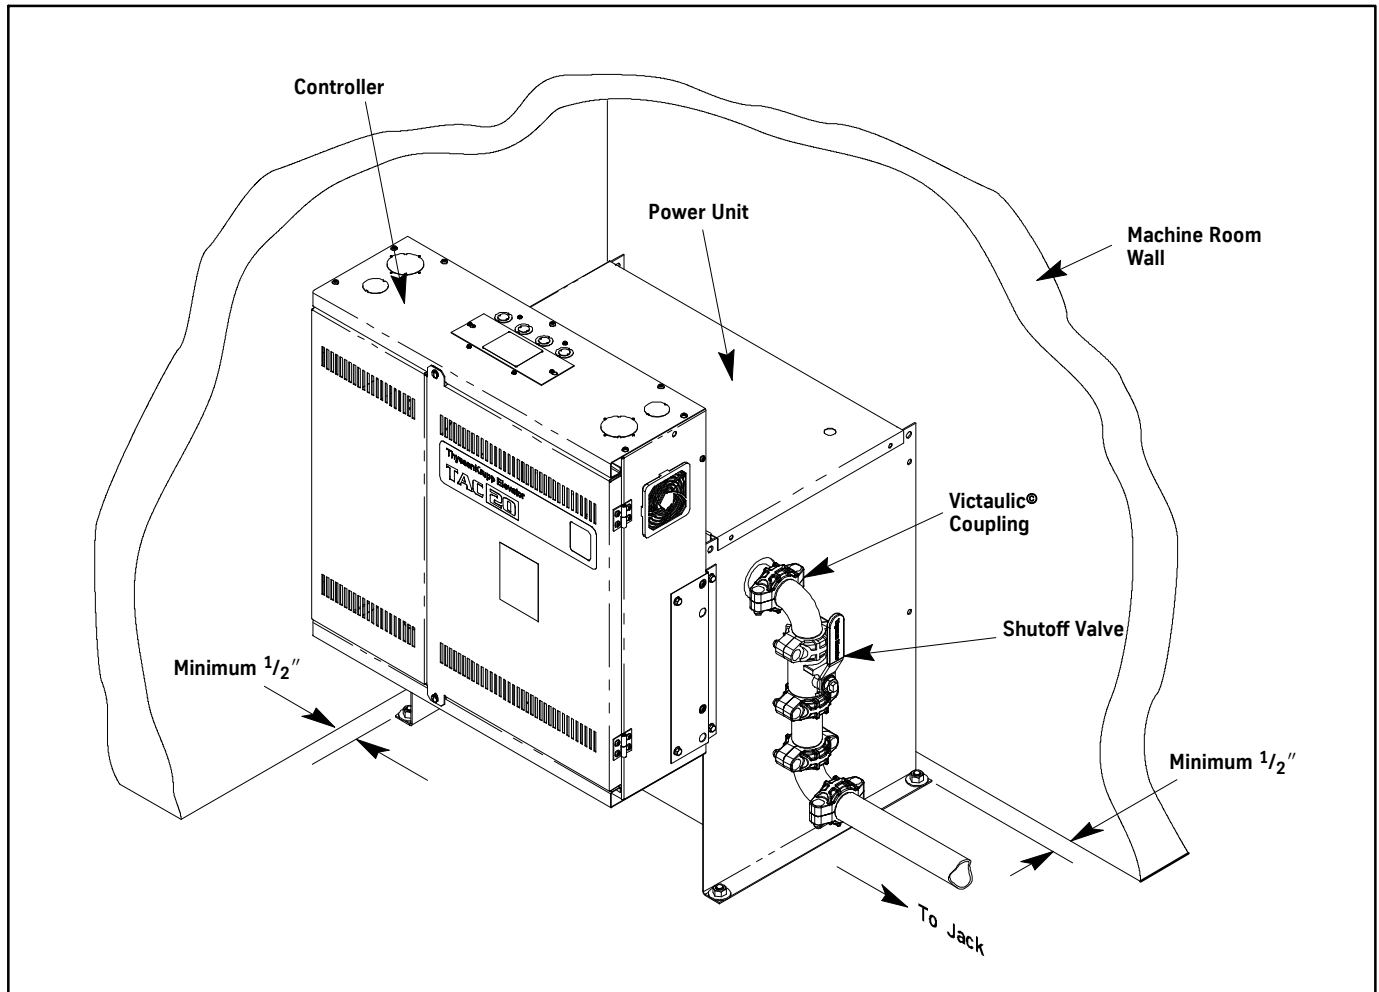

Figure 1 - Power Unit Placement And Piping
1. Place the Power Unit in the Machine Room. See Figure 1.
2. Position the Power Unit according to the layout and Figure 1, then anchor it to the machine room floor with four $\frac{1}{2}$ " anchors.